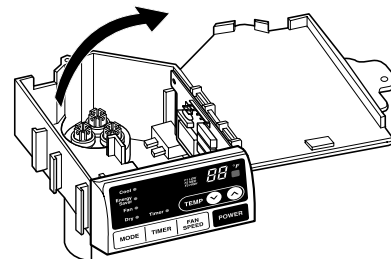

Figure 21
2. Open the top cover from the control box. (See Figure 21)